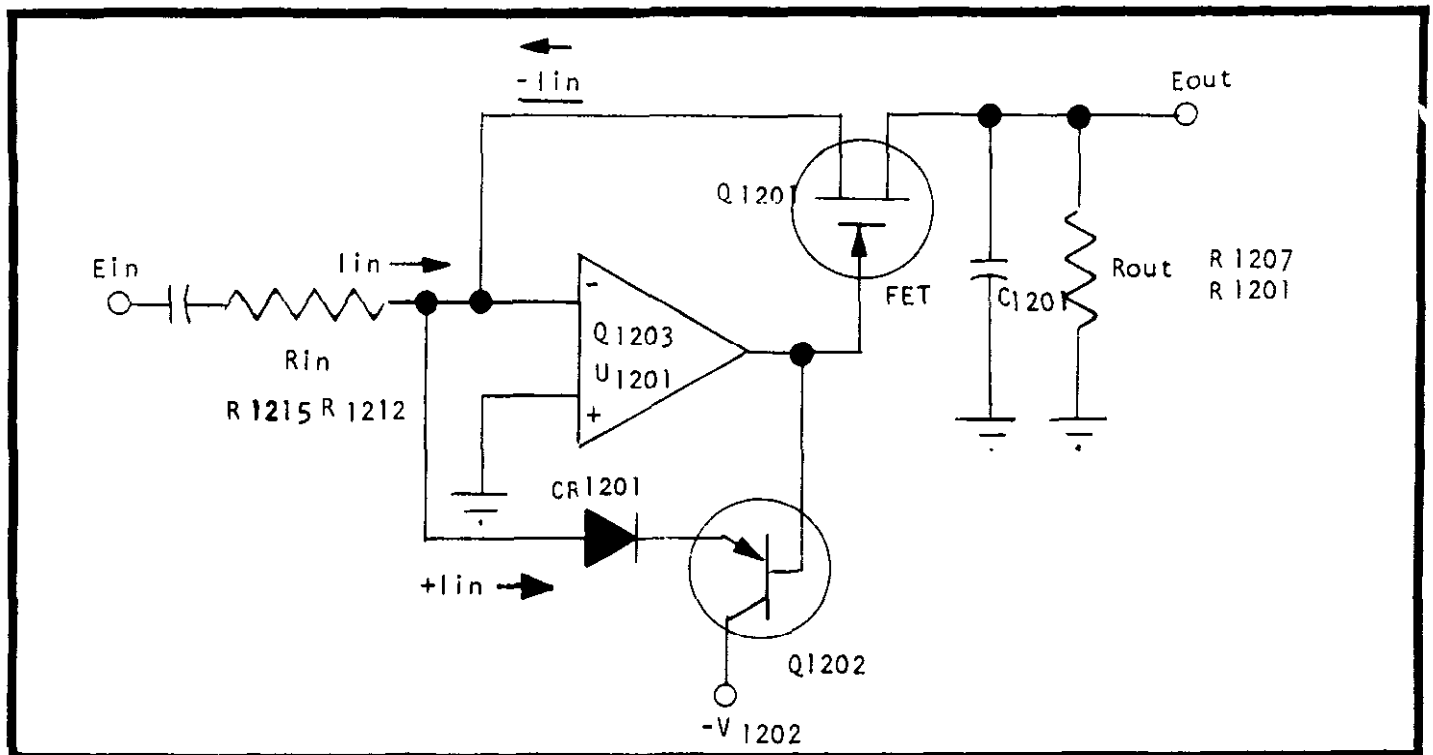

FIGURE 24. Diagram of AC/DC Converter (Model 1740).
1. The AC/DC converter is a transconductance amplifier. The simplified circuit shown in Figure 24 illustrates the basic operation. The AC input voltage (E_{in}) is converted to a current (I_{in}) as a result of the summing amplifier configuration. Current I_{in} flows through FET Q1201 when negative and through diode CR1201 when positive. Thus E_{out} is a halfwave rectified signal. E_{out} is developed by I_{IN} flowing through R_{out} . The positive (+) terminal of the converter amplifier is referenced to a negative voltage (-15V) to allow voltage swing across FET Q1201.